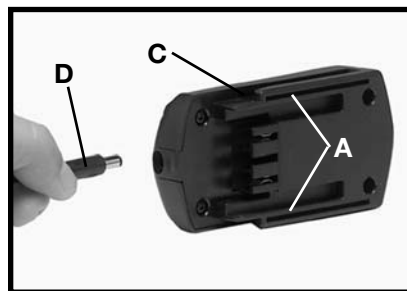
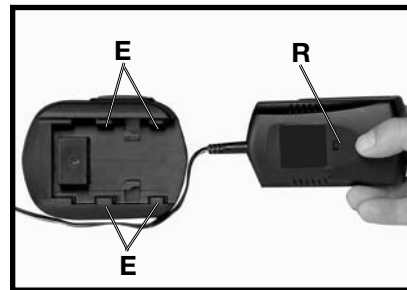

Fig. 5
Fig. 6
Make sure power circuit voltage is the same as that shown on the charger specification plate. Charge the battery pack only with the charger supplied with the tool. Connect the current carrying prongs on the power cord to the power source. Connect the other end of the power cord (D) Fig. 5, to the charger (C). The red light (R) Fig. 6, should light up. This indicates the charger is ready to begin charging.
Position battery pack on charger, align rails (A) Fig. 5 on charger with the four tabs (E) Fig. 6 on the battery pack. Slide battery forward onto charger until it stops.